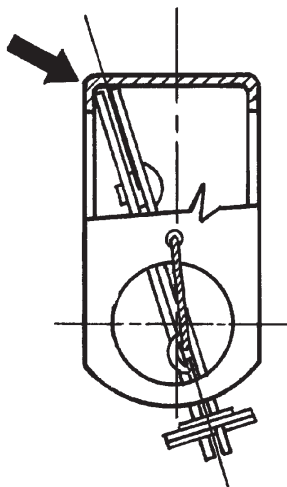

FIGURE 5-31
9. Install the linkage and the correct ANSUL approved fusible link in the remainder of the detector brackets. Make certain all detector linkages are positioned against either the front or back upper lip of the formed detector bracket. See Figure 5-31.